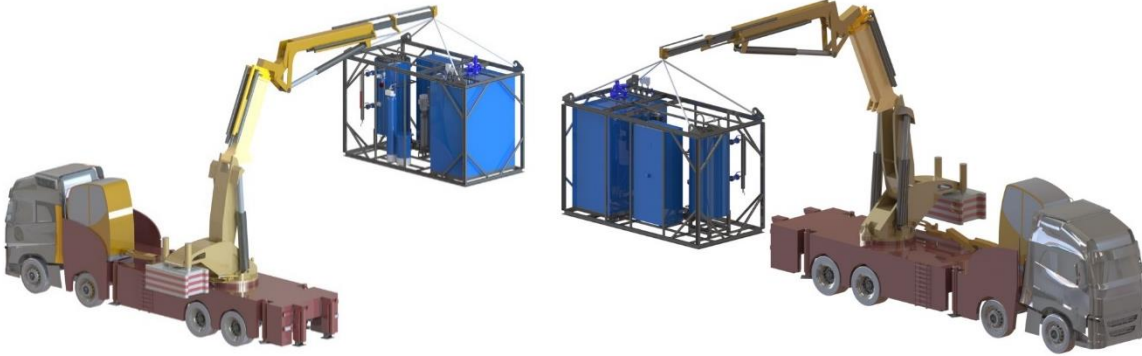

Figure 3.1.1 Handling the Skid Mounted Boiler
- 3- Lifting eyebolts of the boiler must be used while lifting to place it on the vehicle. (In Figure 3.1.1)